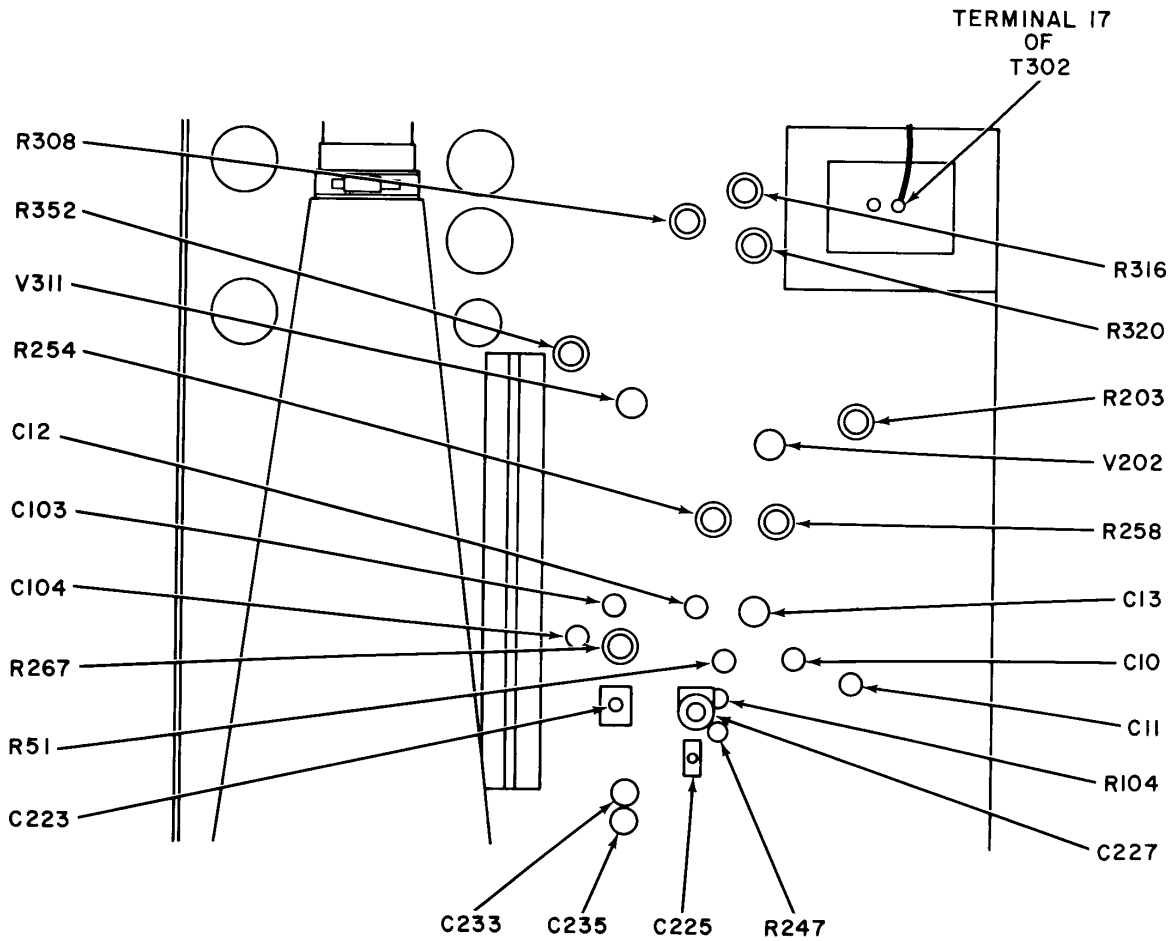

Figure 4. Oscilloscope - top view.
- (1) Position TI controls as listed in (a) through (c) below:
- (2) Adjust R316 (fig. 4) for a small round spot.
- (3) Adjust R320 (fig. 4) until spot disappears.
- (1) Adjust test oscillator amplitude output to 0.53 volt rms.
- (2) Adjust R203 (fig. 4) until triggering becomes stable.
- (3) Position TI controls as listed in (a) through (d) below:
- (4) Connect ac/dc voltmeter (A1) between pin 2 of V202 (fig. 4) and chassis ground.
- (5) Adjust R258 (fig. 4) clockwise until sweep free-runs and then counterclockwise until sweep trace just disappears. Record ac/dc voltmeter indication.
- (6) Adjust R258 (fig. 4) for indication of 3 volts more positive than the value recorded in (5) above.
(1) Adjust voltage calibrator for a 353.5 millivolt rms output.
(2) Adjust CAL control for a 10-centimeter display amplitude on TI crt.
(3) Adjust voltage calibrator output for a 353.5-millivolt rms output.
(4) Adjust R104 (fig. 4) for a 10-centimeter horizontal display amplitude on TI crt.
**b. Adjustments.** Adjust R51 (fig. 4) for display amplitude of 6 centimeters on TI crt.
- (6) Adjust C12 (R) and C13 (R) (fig. 4) for best square-wave pattern on TI crt.